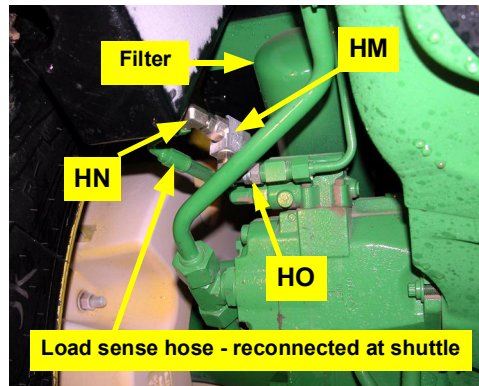

Figure 6c: Installed load sense shuttle - regular flow pump shown (the filter identifies the pump as regular flow)
- c. Attach the load sense shuttle's elbow swivel adapter **HO** to the load sense actuator. Reconnect the tractor load sense hose to the load sense shuttle adapter **HN** (Figure 6c).
**NOTE:** *Figure 6c shows a regular flow pump. Install the load sense shuttle with adapter **HP**. You will connect the load sense hose from the hydraulic steering block to **HP**.*